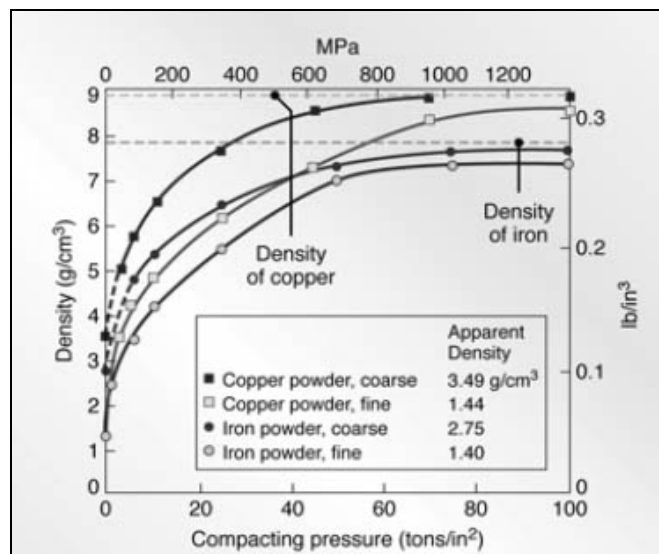

Figure Q6[b]
- [b] Based on Figure Q6[b], calculate the initial volume of loose, fine iron powder in order to make a solid cylindrical compact with diameter of 25 mm and height of 15 mm. (Hint: density of iron is indicated in the figure).**